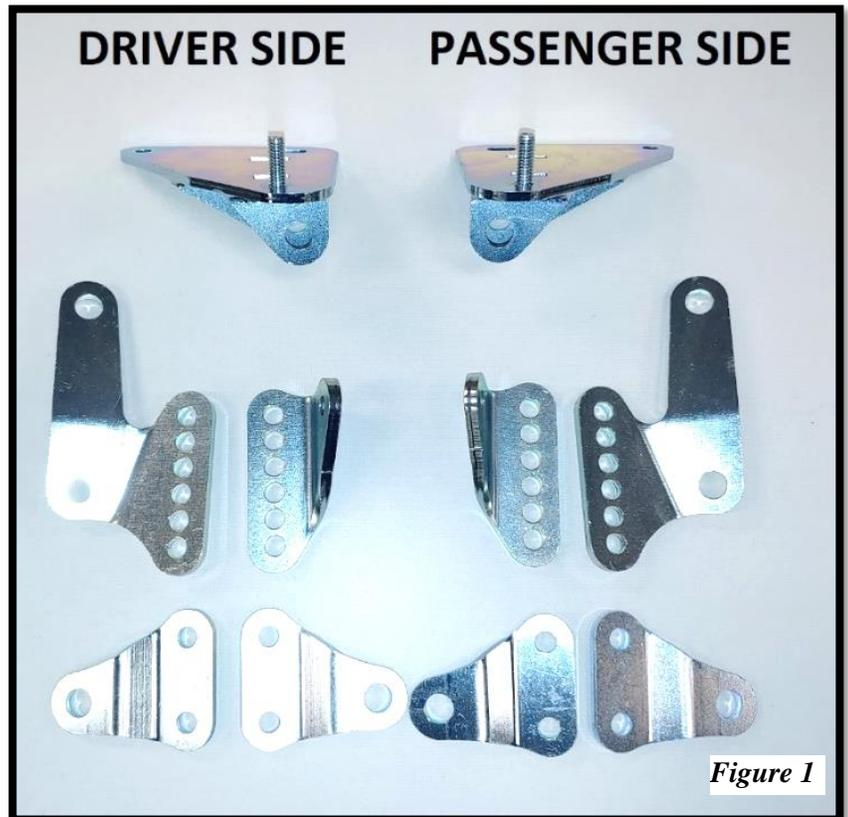

Figure 1
1. Identify the driver and passenger side upper and lower mounting brackets. **(Figure 1)**